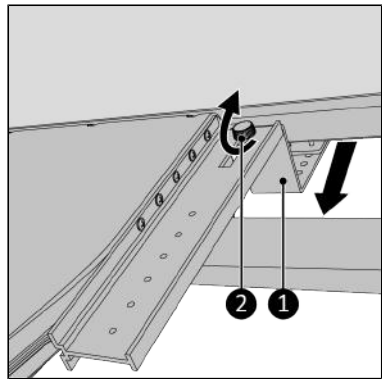

Figure 99.
9. Pull the bracket as far towards you as possible (Figure 99, pos. 1) so it clamps properly.
10. Tighten the screw cap (Figure 99, pos. 2).